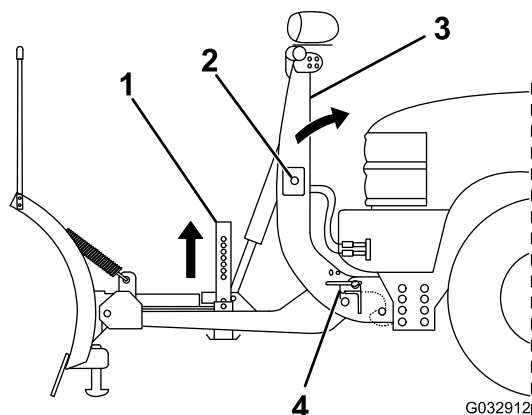

Figure 27
5. Push the SmartHitch2 switch on the side of the coupler tower upward and raise the tower until the coupler spring pins snap in (Figure 27).
7. Pull the kickstand spring pin outward and raise the kickstand, then release the spring pin to secure it (Figure 27).